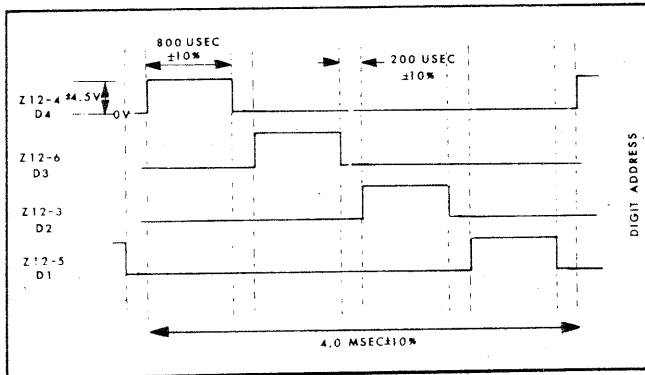

Figure 5-5. Address Code waveforms
b. The operation of Z12 in generating a proper address code can be checked at the output of Z12 by observing the waveforms as shown in Figure 5-5. Note the timing separation between pulse rise and fall events of proper operation.
c. Proper operation of the digit address drive Z10 is checked by examining the waveforms at Z10 which should be the inverted form of Figure 5-5 at Z10-2, Z10-3, Z10-5, and Z10-10, respectively, for D1, D2, D3, and D4 addresses. Output at Z10-1 for the D5 address should be low for 200 μsec ±10% and high for 800 μsec ±10% and should occur at four times the frequency of D1, D2, D3, or D4. Zero level of the output waveform should be ≤0.7V and high level should be nearly equal the digital circuit supply circuit whose nominal value has been measured in paragraph 5.6.